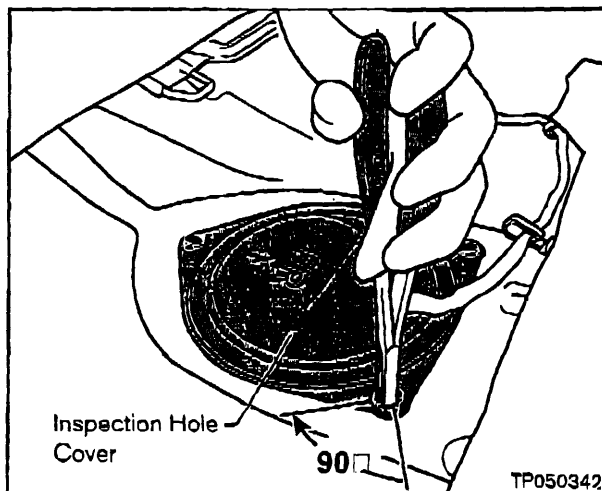

Figure 2a
- a. Turn each Attachment Clip 90° (see Figure 2a).